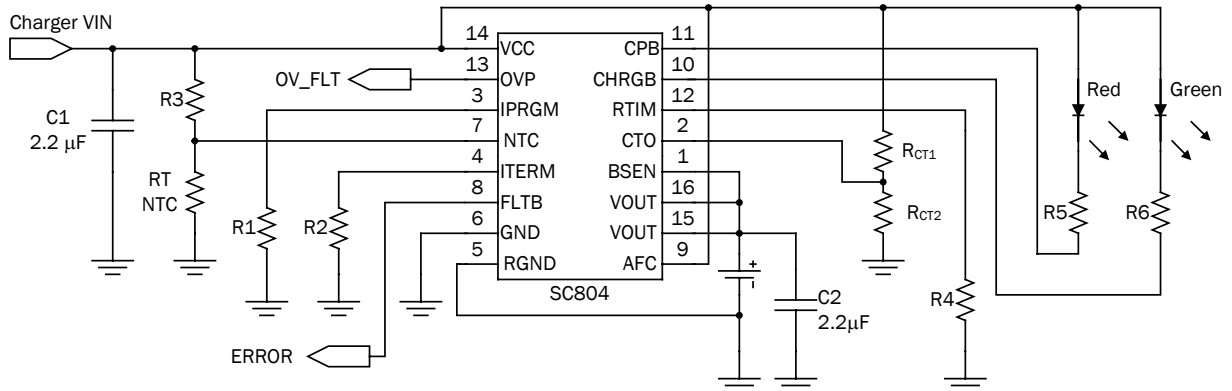

Figure 2 - Application Circuit with AFC Disabled, and with NTC and CTO Resistor Networks
This feature is especially useful if a single PCB design is needed to satisfy similar applications with different requirements. The temperature range for normal charging can be adjusted by adjusting resistor values on a divider network without changing the NTC thermistor, which is often enclosed in the battery pack. An example of a typical application is shown in Figure 2.
The following example assumes the NTC network configuration of Figure 2, with a fixed resistor R3 connected between NTC and VCC, and a battery NTC thermistor RT connected between NTC and ground. The battery temperature range over which charging is permitted is specified to be 0°C through 40°C. The datasheet for the selected NTC thermistor indicates that $R_T = 5.839k\Omega$ at 40°C, at $R_T = 26.49k\Omega$ at 0°C, with a dissipation constant $DC = 3mW$. Designate $R_{HOT} = 5.839k\Omega$ and $R_{COLD} = 26.49k\Omega$.
Step 4: Configure CTO. If NTC_{COLD} is sufficiently close to the default cold threshold ($V_{T_{NTCC}} \times V_{VCC}$), then simply connect CTO to ground, disabling the CTO function, to complete the design. But in this example it is not, so the voltage on CTO must be set to $0.6591 \times V_{VCC}$. The simple resistive voltage divider network of Figure 2 can be used to obtain the desired CTO voltage.